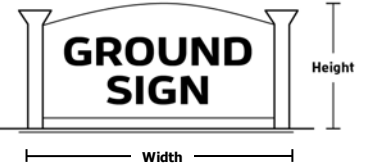

Figure 2: Freestanding Sign
- 1) Freestanding Sign. The height of a freestanding sign shall be calculated by measuring the vertical distance between the top part of such sign or its structure, whichever is highest, to the elevation of the ground directly beneath the center of the sign. See Figure 2.